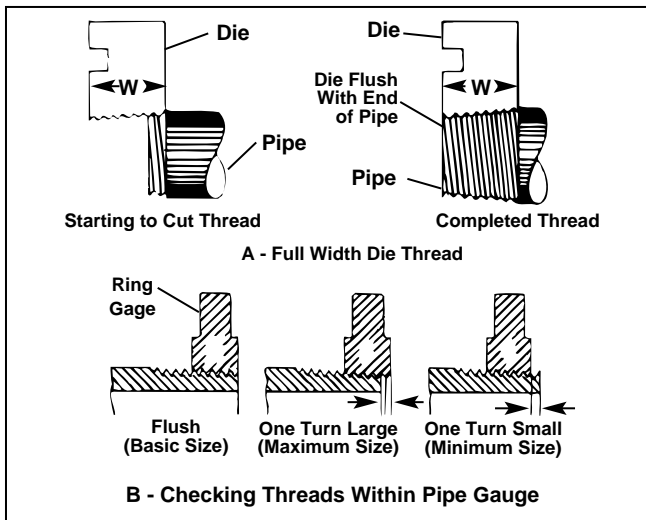

Figure 14 – Checking Thread Length
1. Thread is cut to proper length when end of pipe is flush with edge of dies (*Figure 14*).
2. Die Head is adjustable to obtain proper thread diameter. If possible, threads should be checked with a thread ring gage (*Figure 14*). A proper thread is cut when end of pipe is plus or minus one turn of being flush with face of ring gauge.